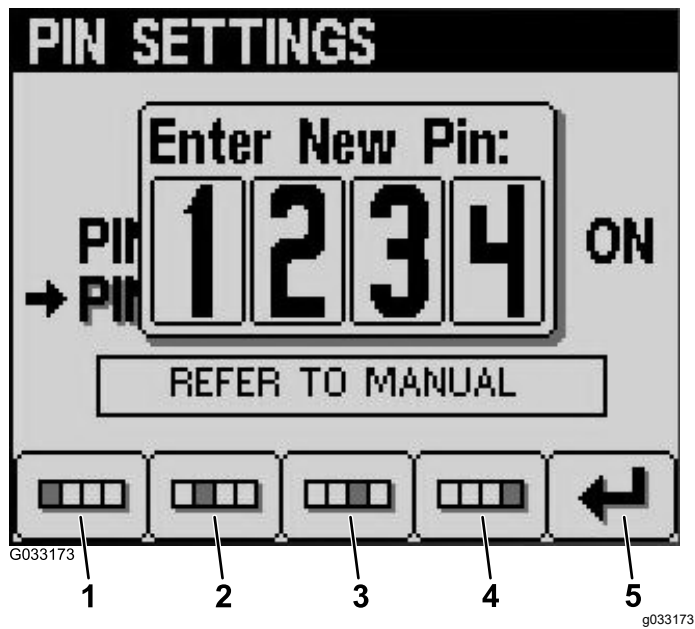

Figure 16
7. Enter your new PIN using buttons 1 to 4 and press button 5 when you complete your new PIN (Figure 16).